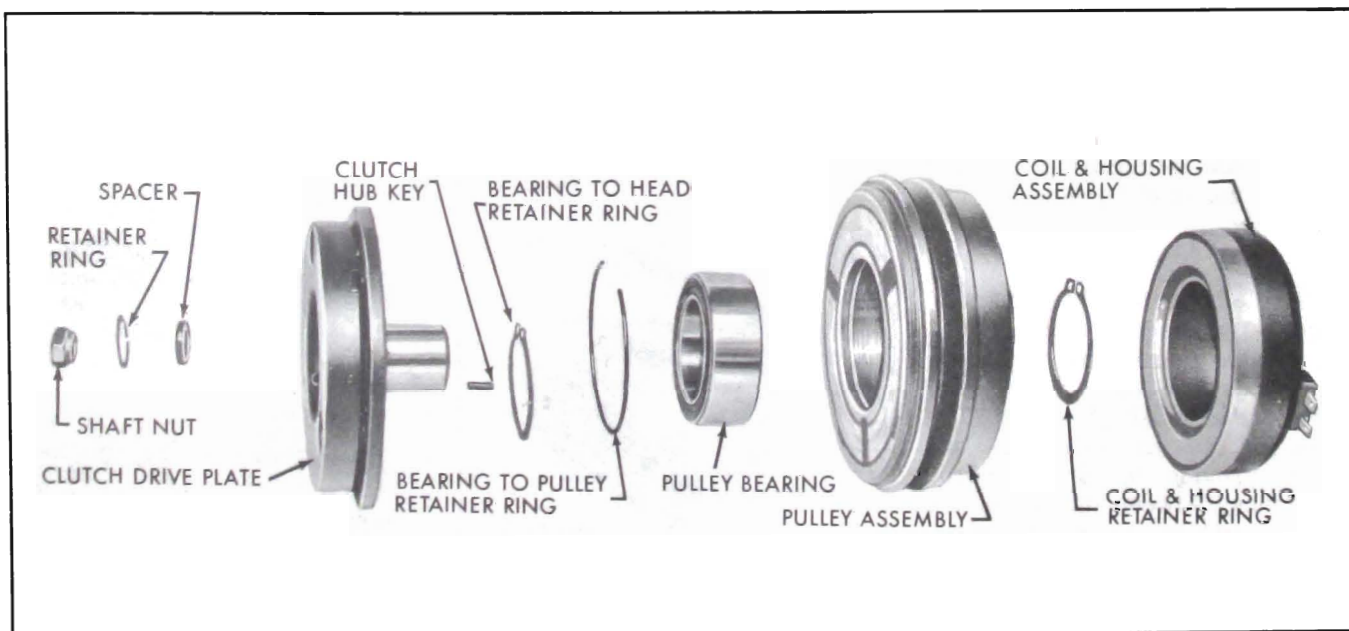

Figure 11-36—Magnetic Clutch Assembly
**12. Magnetic Clutch and Pulley Assembly—**The magnetic clutch and pulley assembly (see Figure 11-36) together transmit power from the engine crankshaft to the compressor. The magnetic clutch is actuated when the air conditioning clutch compressor switch and the FAN switch located on the air conditioning control assembly are closed. When the switches are closed (air lever in A/C position and fan lever in low-medium or HI positions) the coil sets up a magnetic flux and attracts the armature plate (movable element of the clutch drive plate). The armature plate portion of the clutch drive plate moves forward and contacts the friction surface of the pulley assembly, thereby mechanically linking the compressor to the